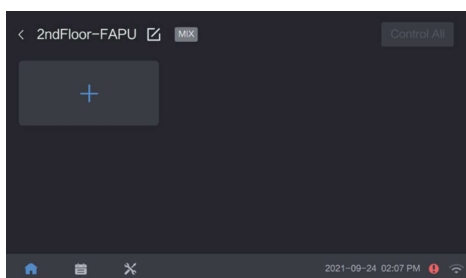

Figure 9 Individual Devices – Select Devices
- ① Click + on the group details page and select the devices to be added. For details, see steps of adding and setting devices in group creation;
- ② Select devices to be added from individual devices (see Figure 9 Individual Devices – Select Devices). Click the Add to button in the upper right corner to add devices to the correct group. You can add devices to the group with the same type of devices or the group with mixed types of devices (the list is empty if the group with the same type of devices is unavailable).